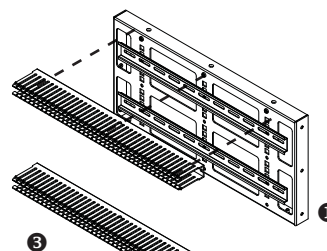

Figure 1
Step 2. Align wire duct's ❸ inside open slots with 3 screw holes on top and bottom edge of Main Panel ❶. Secure them with M4x8 screws. (Figure 1)